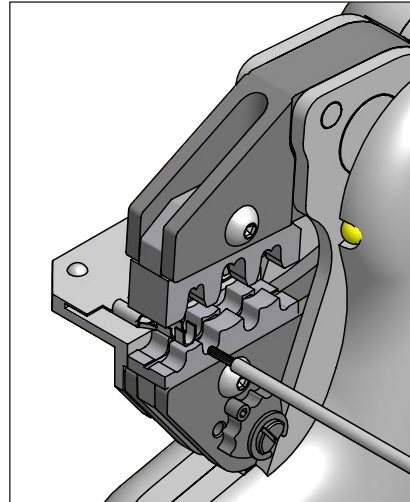

Figure 11
8.3.2 Die sets for non-insulated open plug connectors, D-sub plugs (Figure 11)